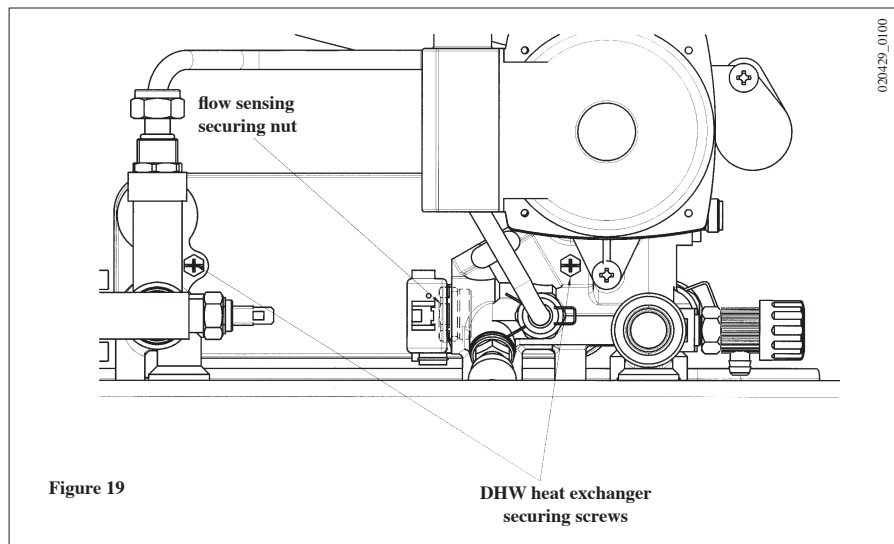

Figure 19
- remove the two screws (right in front of you) securing the DHW heat exchanger and pull it off its seat (Figure 19).
- unscrew the nut on the flow sensing assembly (Figure 19).